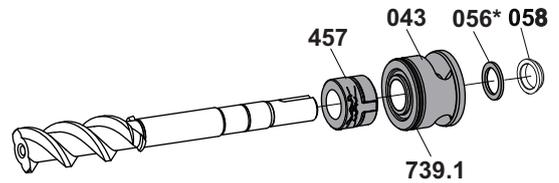

Fig. 11
5. Remove L-ring 058, supporting ring 056*, sealing sleeve 043 along with o-ring 739.1 and stationary seal ring of the mechanical seal along with o-ring, see Fig. 11.
6. Remove the remaining parts of the mechanical seal 457 from the main screw, see Fig. 11.